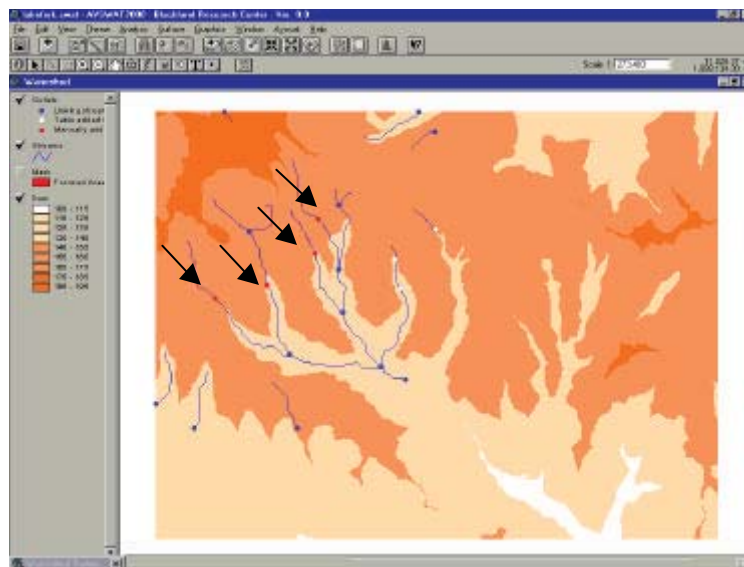

Figure 15.23
19. The dialog box will be minimized. Use the mouse to move around the map, and click with the left mouse button to place a subbasin outlet where the mouse is positioned. Subbasin outlets added manually will be displayed as red dots. Add four outlets so that the map looks similar to Figure 15.23.